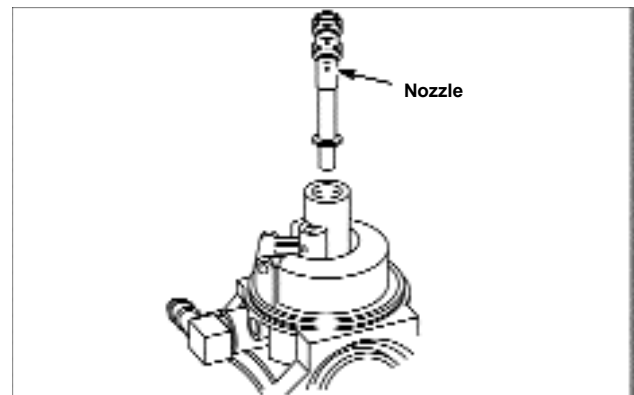

Figure 45 - Removing Jet Nozzle
4. Remove carburetor main nozzle. See Figure 45.